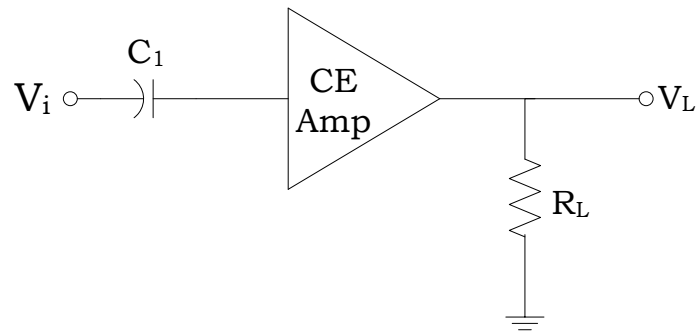

Figure 3
2. Connect load resistor, R_L as shown in Figure 3. Measure $V_{L(\text{peak})}$. Record your measurement in Table 4.